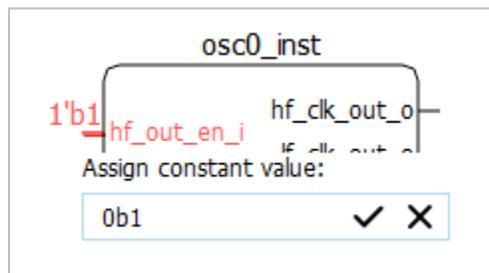

Figure 2.63. Dialog Box of Assigning Constant Value to an Input Pin
2. A small dialog box appears (Figure 2.63). Enter the desired value. To erase the value and start over, click X. For all buses (more than one pin), the format is hexadecimal. Make sure the value fits the number of pins in the bus. For example, a 3-pin bus can accept 0-7, but not 8.